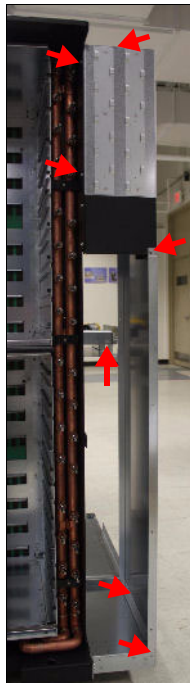

Figure 1-11 Side panel with screw and pin locations
5. Install the side panel (part number 00J0427). There are two retaining pins in the bottom of the side panel, which are inserted into slots in the bottom BPE shelf. Five screws secure this panel. Figure 1-11 shows screw and pin locations.